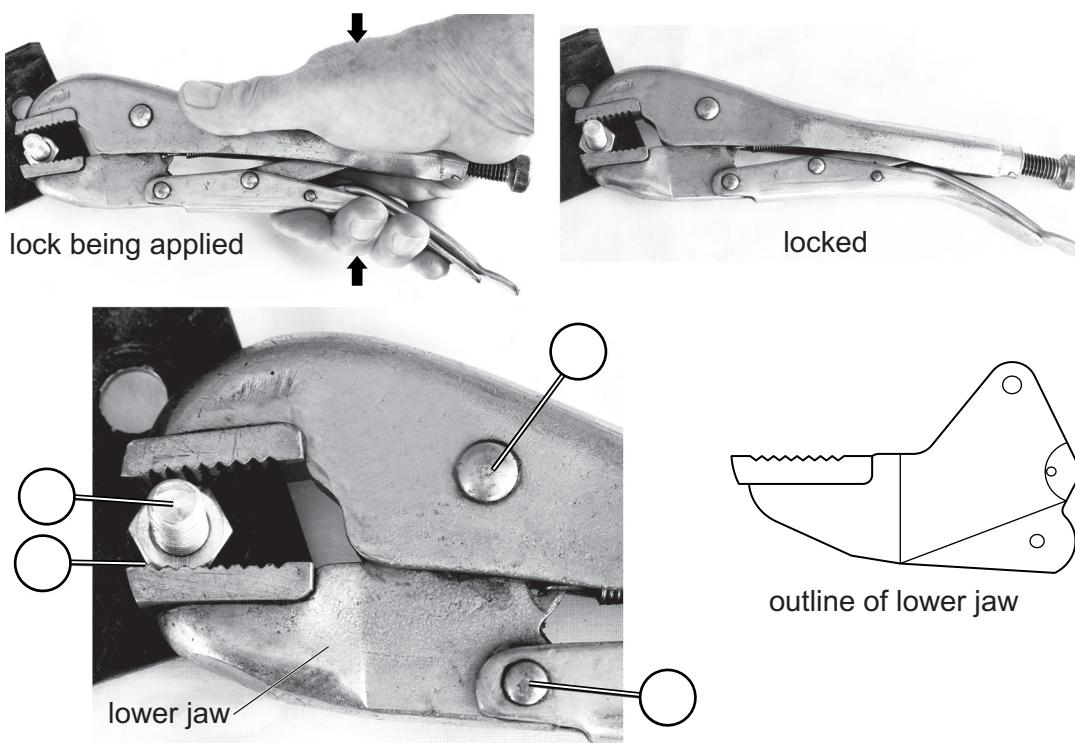

Fig. 4.1
- 4 Fig. 4.1 shows details of a self-grip wrench being locked onto a nut between the jaws. The lower jaw is acting as a lever, locking onto the nut when pressure is applied.
- (a) Add the letters **E**, **F** and **L** to three of the circles in Fig. 4.1 to show the position of the effort, fulcrum and load in the lever. [3]